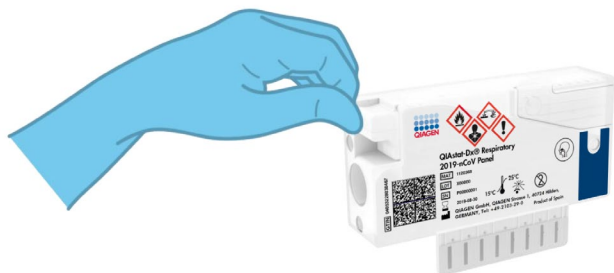

Figure 10. Closing the sample lid of the swab port.
7. Firmly close the sample lid of the swab port until it clicks (Figure 10).